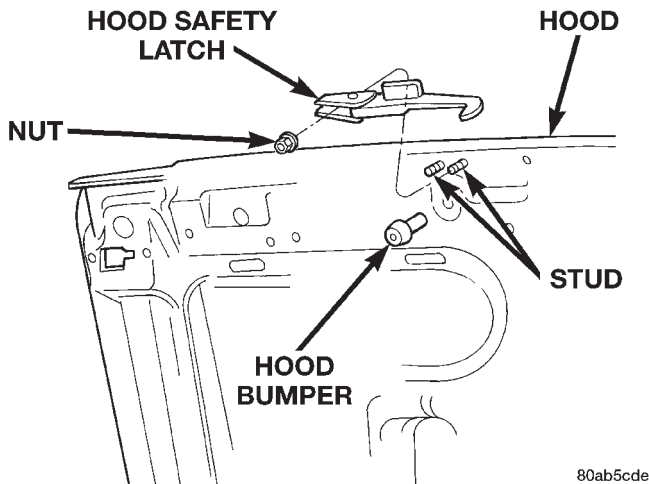

Fig. 7 Hood Safety Latch
- (1) Open and support hood.
- (2) Remove the nuts attaching the safety latch to the inner hood panel (Fig. 7).
- (3) Separate the safety latch from the hood.